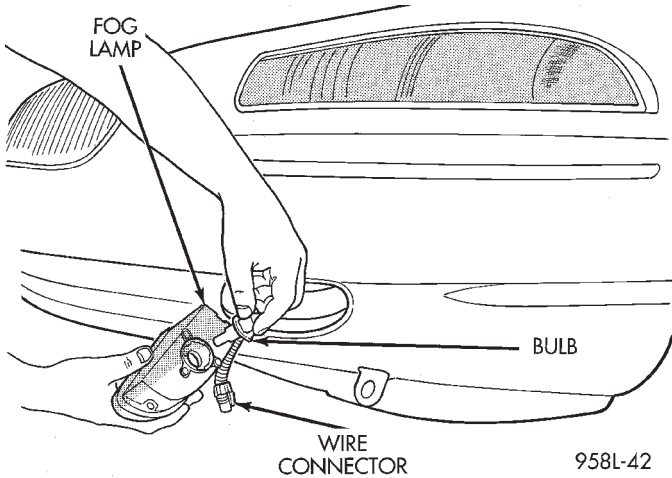

Fig. 4 Fog Lamp Bulb
- (1) Remove fog lamp from front bumper fascia.
- (2) Disengage wire connector from back of fog lamp.
- (3) Rotate bulb base counterclockwise one quarter turn.
- (4) Pull bulb from back of lamp (Fig. 4).